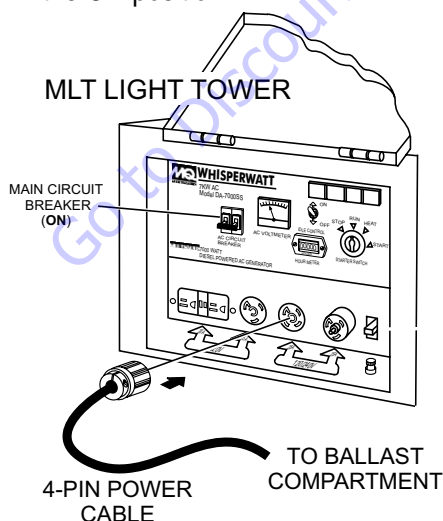

Figure 21. Main, GFCI Circuit Breakers (ON/MLT)
4. Once, the engine has started, place the main circuit breaker switch (Figure 21) on the MLT front control panel in the **ON** position.